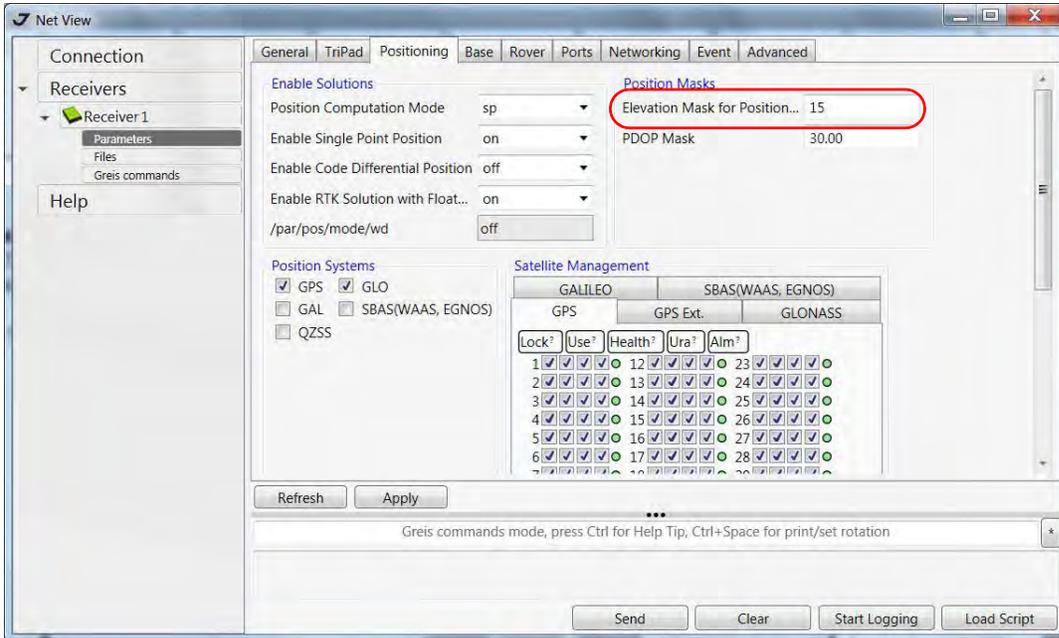

Figure 1-9. Positioning tab - Elevation Mask
- Open *Positioning* tab and set the Elevation mask to 15 degrees (Figure 1-9).